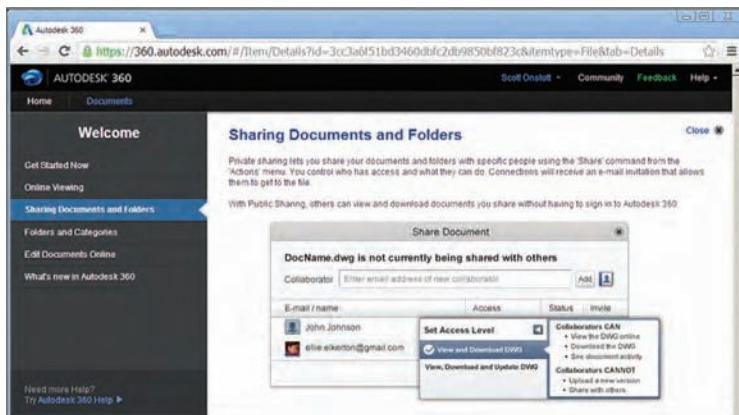

**FIGURE 1.3** Setting Autodesk 360 options
3. After you sign in using an Autodesk ID, the Default Autodesk 360 Settings dialog box appears. Select Enable Automatic Copy and Sync My Settings (see Figure 1.3).